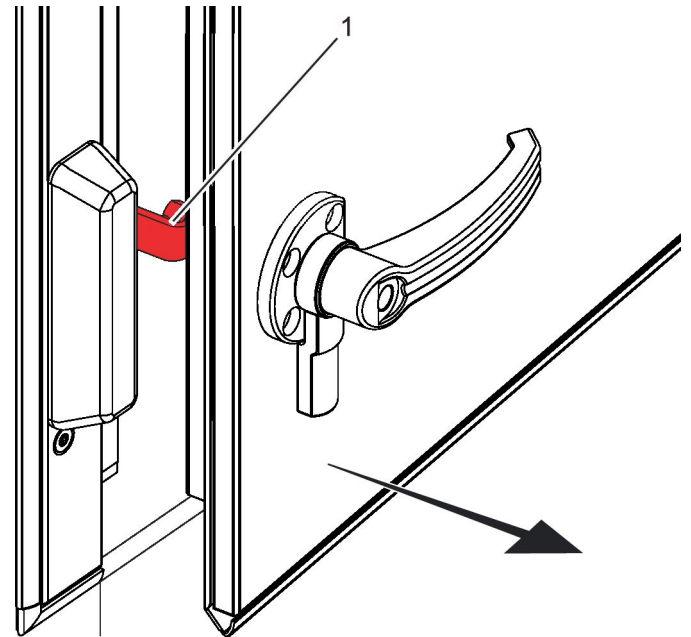

Fig. 51: Safety catch
2. ▶ Carefully open the inspection access door until it is caught by the safety catch (Fig. 51 /1).